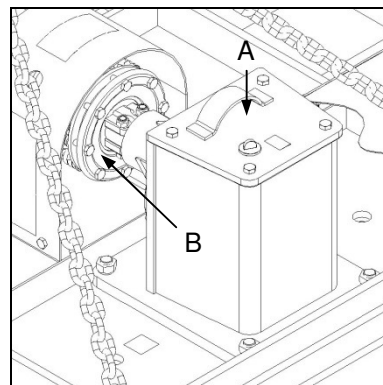

Fig. 5
- ✔ Discolouration or blistering of painted surfaces of the friction clutch housing (Fig. 5-B).
- ✔ The friction clutch housing feels significantly hotter than the surface of the gearbox casing (Fig. 5-A).
- ✔ Verkleuring of blaasvorming van geverfde oppervlakke van die wrywingkoppelaaromhulsel (Fig. 5-B).
- ✔ Die wrywingkoppelaaromhulsel voel beduidend warmer as die ratkasomhulsel (Fig. 5-A).